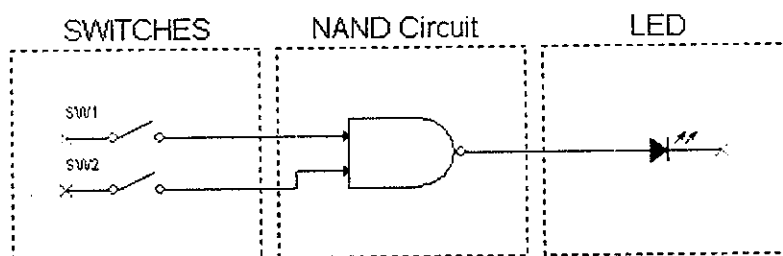

Figure 1 - NOR as NAND Block Diagram
2. Design a digital circuit using one or more of the NOR gates in a single 7402 IC that will provide the same function as a 2-input NAND gate would (as depicted in Figure 1).